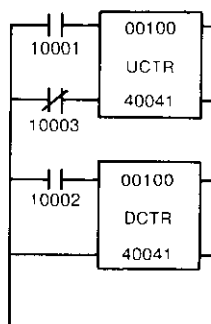

Fig. 5.28 Up/Down Counter
(5) Up/Down Counter
- Fig. 5.28 shows an example of an up/down counter.